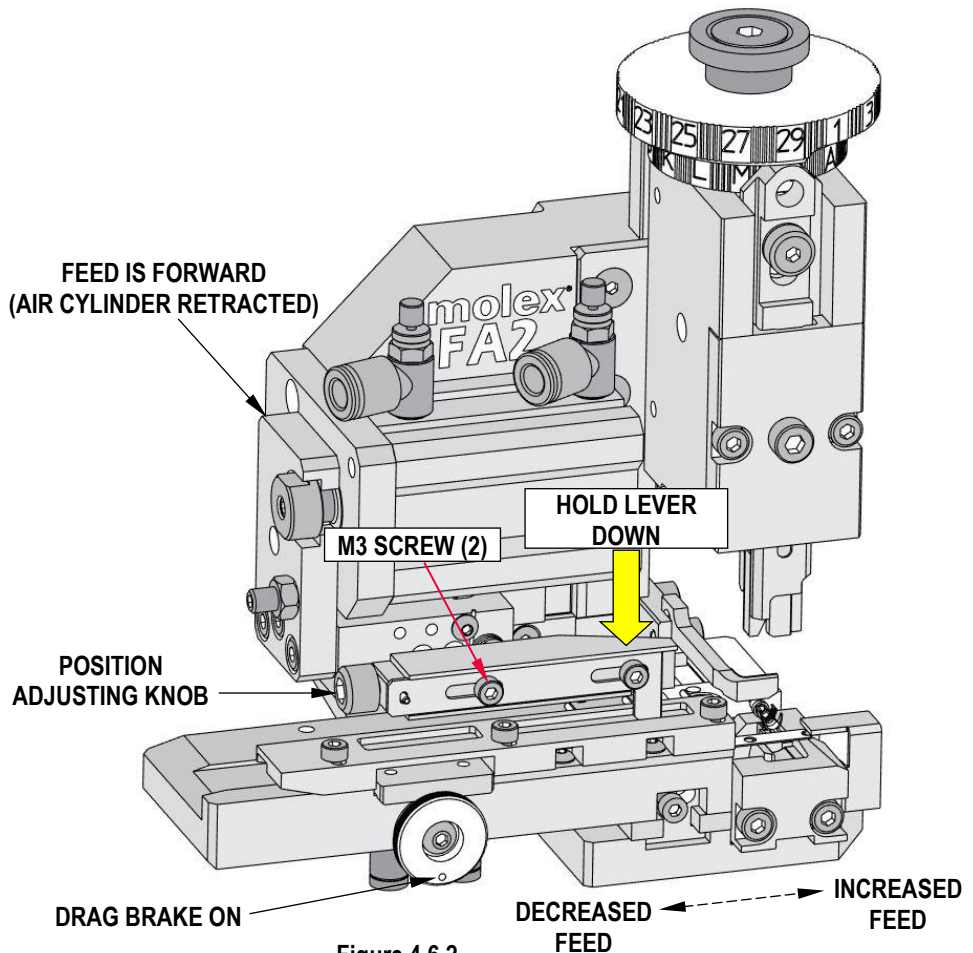

Figure 4.6.2
4. Turn the position adjusting knob clockwise (left to right) to increase feed position or counterclockwise (right to left) to decrease position. See Figure 4.6.2. When decreasing position, the terminal strip needs to be pulled back against the feed pawl to observe the change.